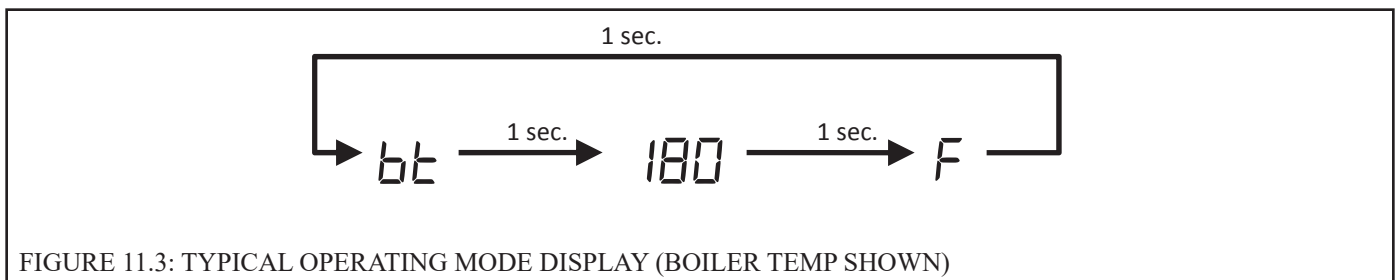

FIGURE 11.3: TYPICAL OPERATING MODE DISPLAY (BOILER TEMP SHOWN)
- 2) Operating Mode - Provides additional information about the current status of the boiler. Operating mode is entered by pressing the **I** button shown in Figure 11.0. When this button is first pressed in Status mode, the display will alternately display *ℓℓ* and the current boiler water temperature as shown in Figure 11.3. Pressing the **I** button again will display the next line item shown in Table 11.2. In the same manner it is possible to advance through all of the “parameters” shown in Table 11.2. To return to Status mode, press **I** repeatedly until *5ℓℓ* once again appears on the display. Alternatively, the control will return to Status mode if no key is touched for 30 minutes.
**NOTE:** In operating mode, holding either the  $\uparrow$  or  $\downarrow$  button while viewing a given parameter will keep the display on the actual reading. For example, pressing  $\uparrow$  while reading boiler temperature as shown in Figure 11.3 will keep the display on 180 for as long as this button is held. This makes it easier to view readings “live” if they are changing rapidly.